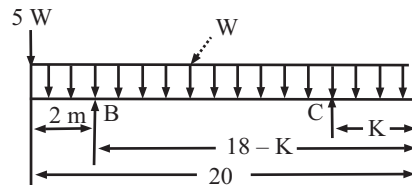

Fig 5
- Q.5.** A beam ABCD 20m long is loaded as shown in fig 5. The beam is supported at B and C and has a overhang of 2m to the left of support B and an overhang of K meters to the right of support C which in the right hand half of the beam. Determine the value of K if the mid point of beam is a point of inflexion and for this arrangement, plot BM and SF diagrams indicating the principle numerical values.